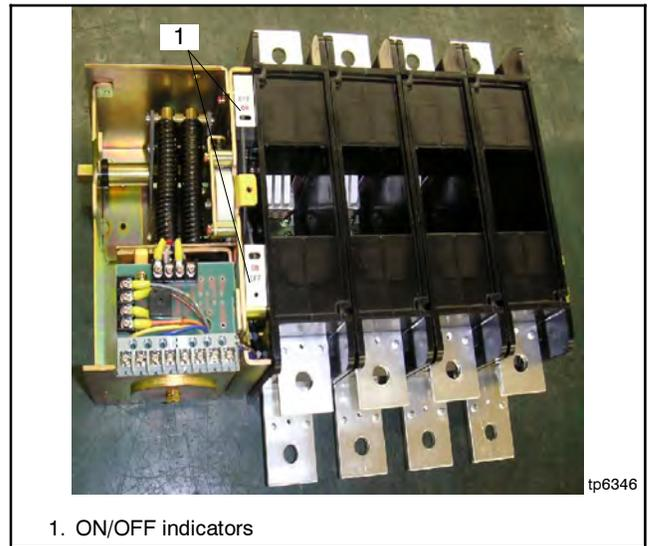

Figure 7-19 ON/OFF indicators
2. Remove the ON/OFF indicators. Notice that the indicators are not identical. Save them for reinstallation later. See Figure 7-19.